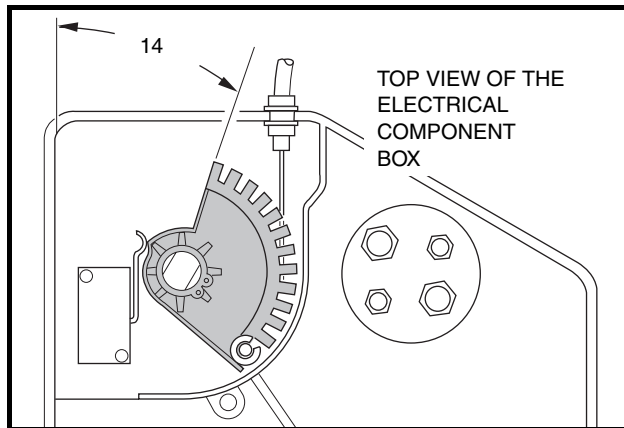

Figure 5-19 Accelerator Cable
- 6.2. Loosen the jam nuts (18) and disconnect the accelerator rod (17) at the accelerator pedal. Adjust the length of the rod (**Figure 5-5, Page 5-6**) to obtain an accelerator cable cam position of 14° as shown (**Figure 5-19, Page 5-15**). See following **CAUTION**.